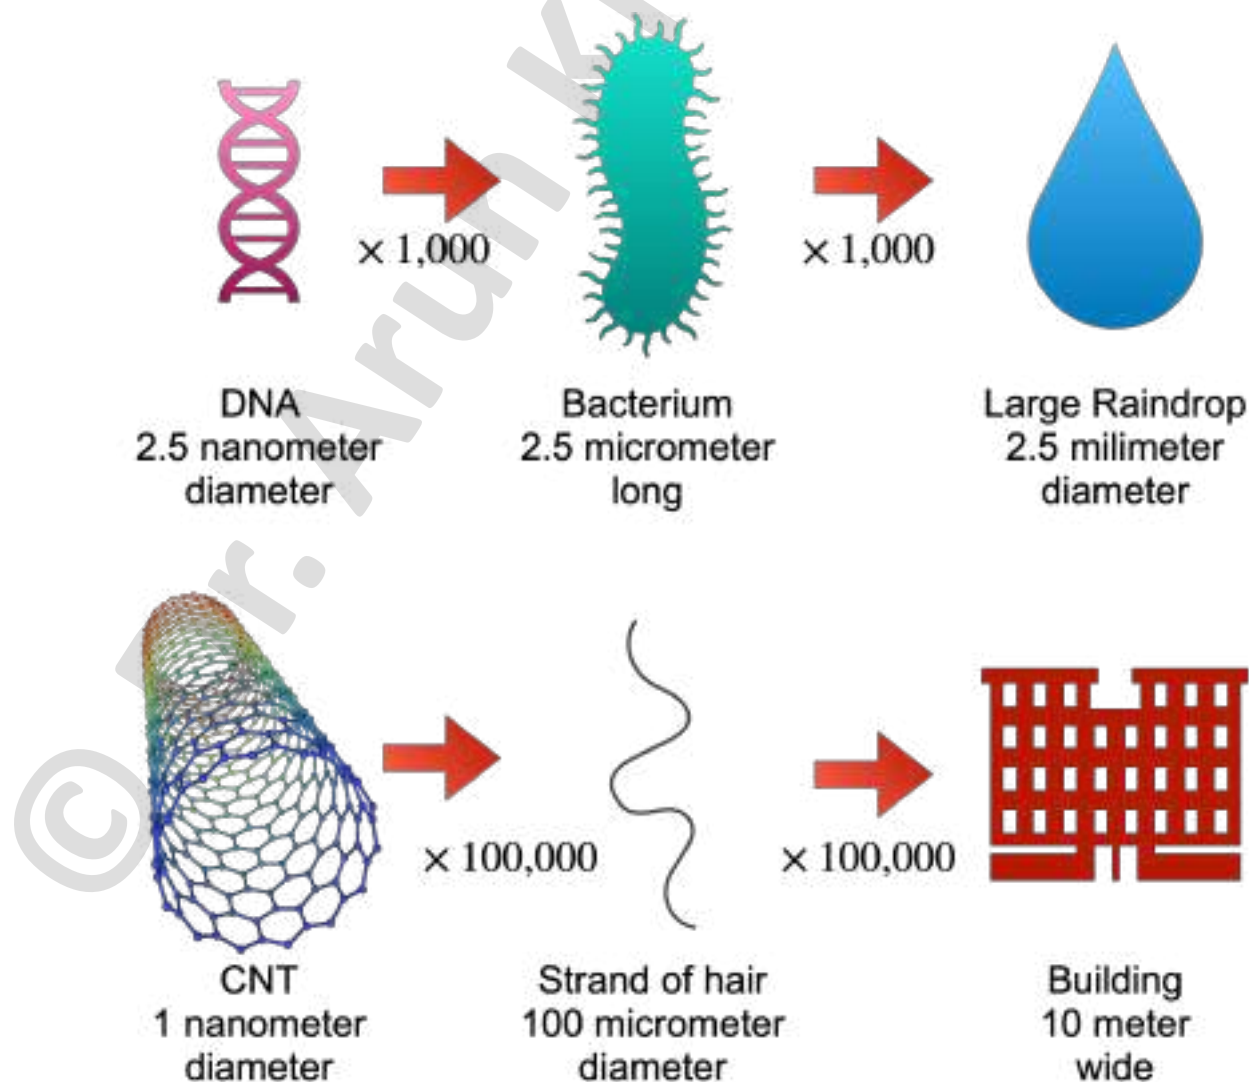

Fig. 2: The Scale of Things
- The illustration shown in Fig. 2 has examples of the size and the scale of nanotechnology, showing just how small things at the nanoscale actually are.